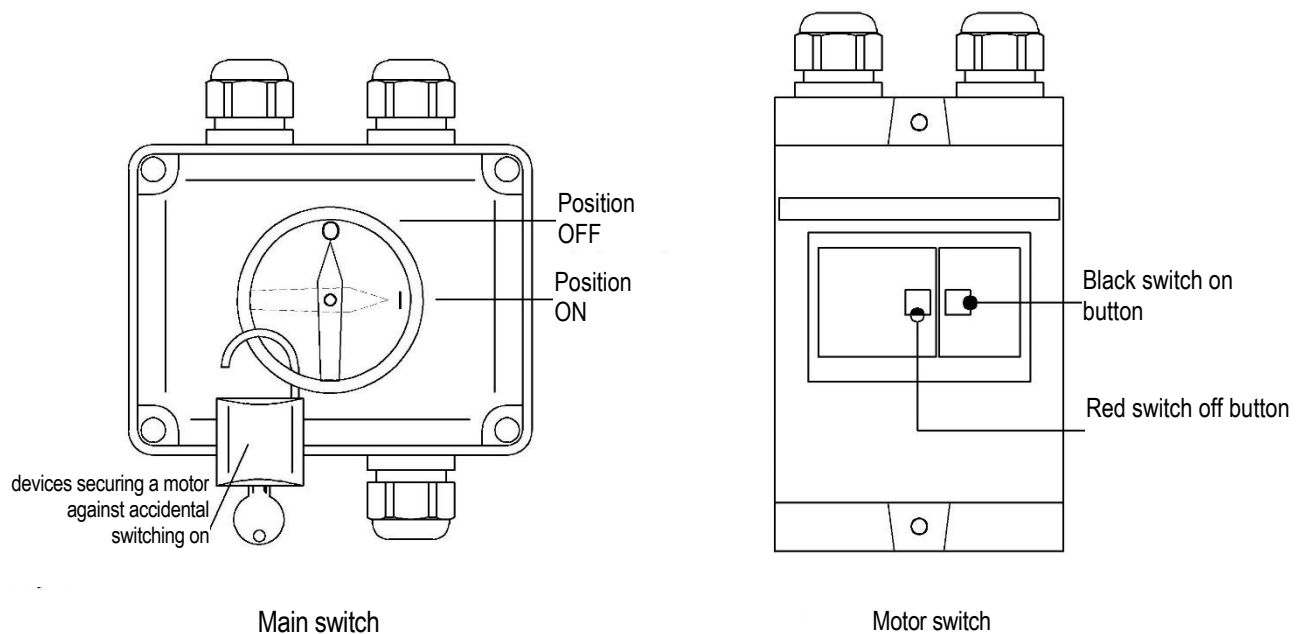

Figure 21. The control devices for a bucket elevator of the PK290 type.
- Press the black ON button on the motor switch (Figure 21).
- Press the red OFF button on the motor switch (Figure 21);